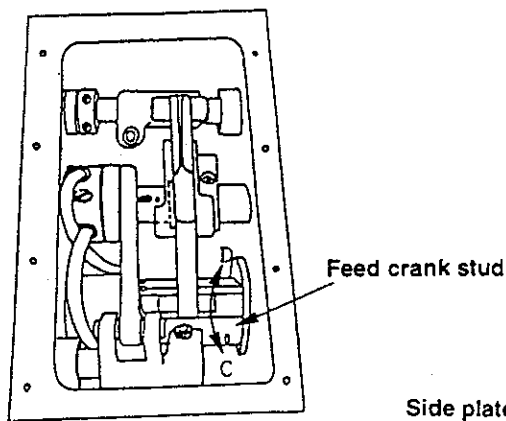
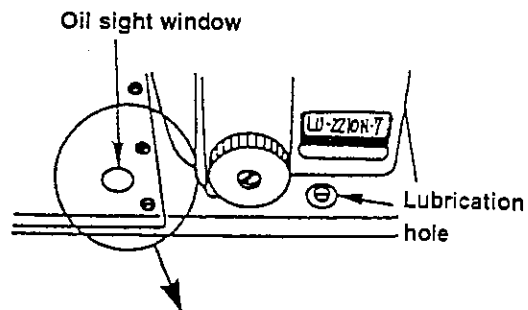
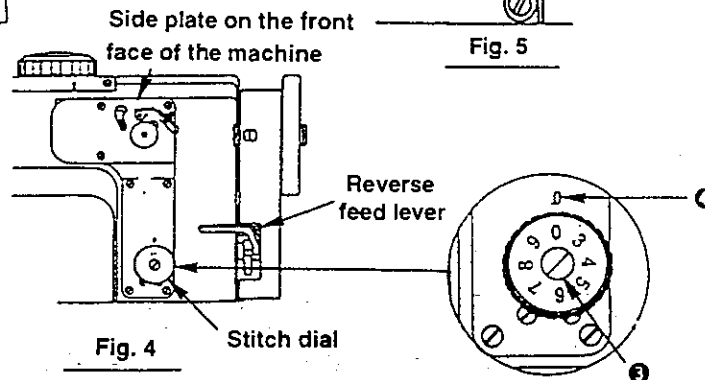

Fig. 3
Fig. 5
Fig. 4
- Align marking ④ of the side plate on the front face of the machine with "0" on the scale of the stitch dial. (Fig. 4)
<ol style="list-style-type: none"> 1. Turn the stitch dial clockwise while moving the reverse feed lever up and down, until the feed adjusting pin meets section A of the feed crank stud. At this time, the feed adjusting pin and the feed crank stud cannot be observed. Performing the adjustment mentioned above, however, allows the operator to feel by hand that the reverse feed lever will no longer come down. 2. Check that the marking (chamfered) of the feed adjusting eccentric pin faces in the direction same as the slot in the feed adjustment converting arm. (Fig. 2) 3. Loosen drain cock ❶, and expel oil from the drain opening. (Fig. 2) 4. Remove the top cover of the bed. (Fig. 2) 5. Loosen screw ❷ in the feed adjustment converting arm. (Fig. 2) 6. Turn the handwheel in the normal direction of rotation to adjust the feed converting unit so that the feed amount of the feed dog is set to zero (0). (Fig. 3) 7. Tighten clamping screw ❷ in the feed adjustment converting arm. (Fig. 2) <p>(Caution) Tighten the screw with a tightening torque of 35 to 45 kgf.cm.</p> <ol style="list-style-type: none"> 8. Supply oil to the machine. (Fig. 5) 9. Loosen attaching screw ❸ of the stitch dial. (Fig. 4) 10. Align zero (0) on the scale of the stitch dial with marking ❹ on the side plate of the front face of the machine. (Fig. 4) 11. Tighten screw ❸ in stitch dial. (Fig. 4) 	<p>☆ The actual stitch length will greatly differ from the value set on the stitch dial.</p> <p>6' Tilt the feed converting unit in the direction of arrow C, and the feeding amount in the normal direction will increase. Tilt the unit in the direction of arrow D, and the feeding amount in the reverse direction will increase.</p> <p>8' Pour oil from the lubrication hole while checking the oil level through the oil sight window. The amount of oil is sufficient when level H is reached.</p> <p>11' At this time, take care not to allow the stitch dial to move to make the zero (0) on the scale of the dial shift from marking ❹ on the side plate.</p>